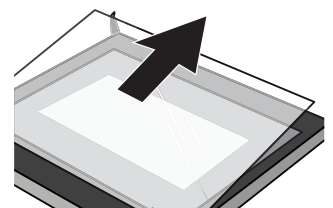

Figure 5
5.) Push the glass into position indicated by the arrow in Figure 5. Gently pull the glass out of the socket.